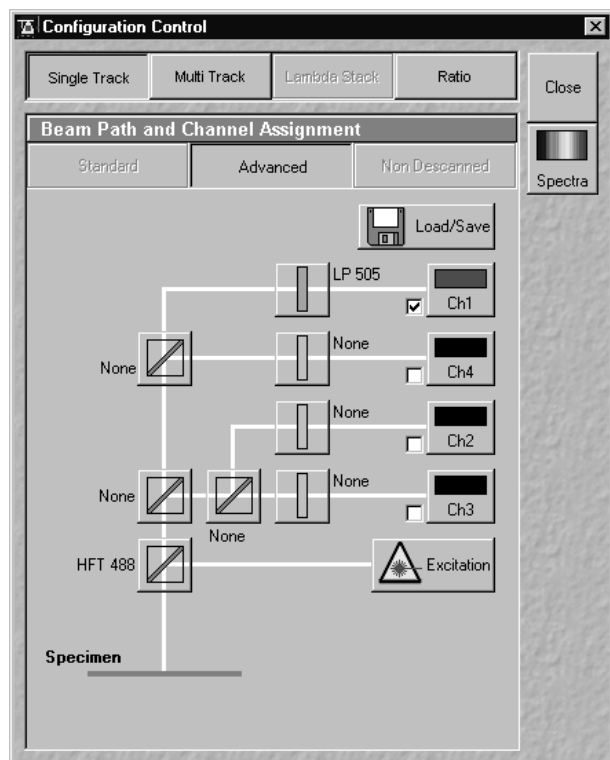

Fig. 4-89 LSM beam path for imaging the test layer of Rh6G
- Set the following LSM parameters in the **Configuration Control** (see Fig. 4-89):